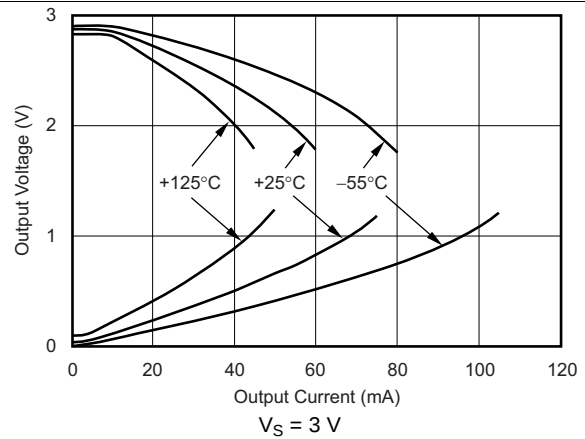
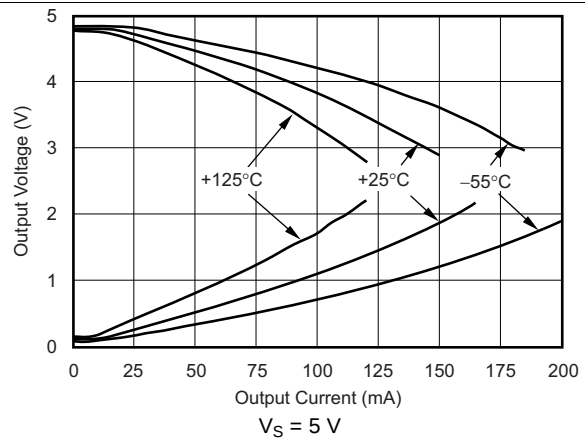

FIG 20. Output Voltage Swing vs Output Current
FIG 22. Output Voltage Swing vs Output Current
(1) See typical characteristic curves, *Output Voltage Swing vs Output Current* (Fig. 20 and Fig. 22).
(2) Specified by design.
A class AB output stage with common-source transistors achieves rail-to-rail output. For high-impedance loads ($> 200 \Omega$), the output voltage swing is typically 100 mV from the supply rails. With 10- Ω loads, a useful output swing is achieved while maintaining high open-loop gain. See the typical characteristic curves, Output Voltage Swing vs Output Current (Figure 20 and Figure 22).
The OPAx354 output stage supplies a continuous output current of ± 100 mA and yet provide approximately 2.7 V of output swing on a 5-V supply, as shown in Figure 30. For maximum reliability, TI does not recommend running a continuous DC current in excess of ± 100 mA. See the typical characteristic curves, Output Voltage Swing vs Output Current (Figure 20 and Figure 22). For supplying continuous output currents greater than ± 100 mA, the OPAx354 may be operated in parallel, as shown in Figure 31.